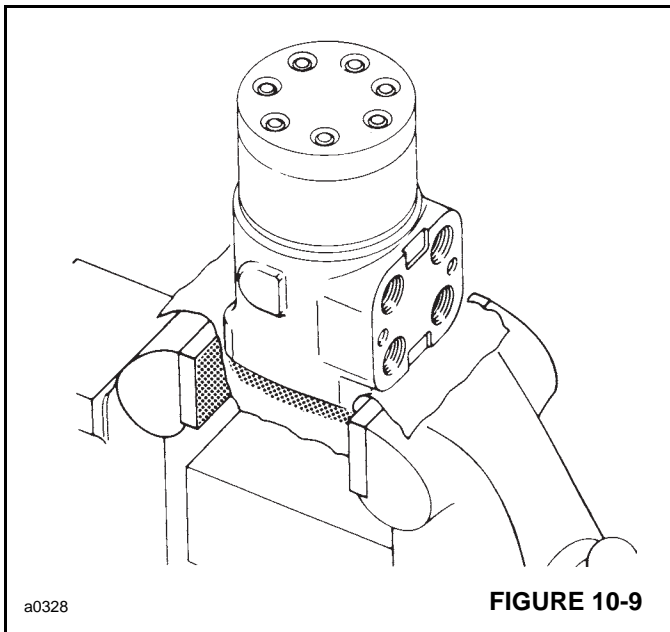

FIGURE 10-9
- Clamp the unit in a vise, meter end up. Clamp lightly on the edges of the mounting area (Figure 10-9). Use protective material on the vise jaws. Housing distortion could result if the vise jaws are overtightened.